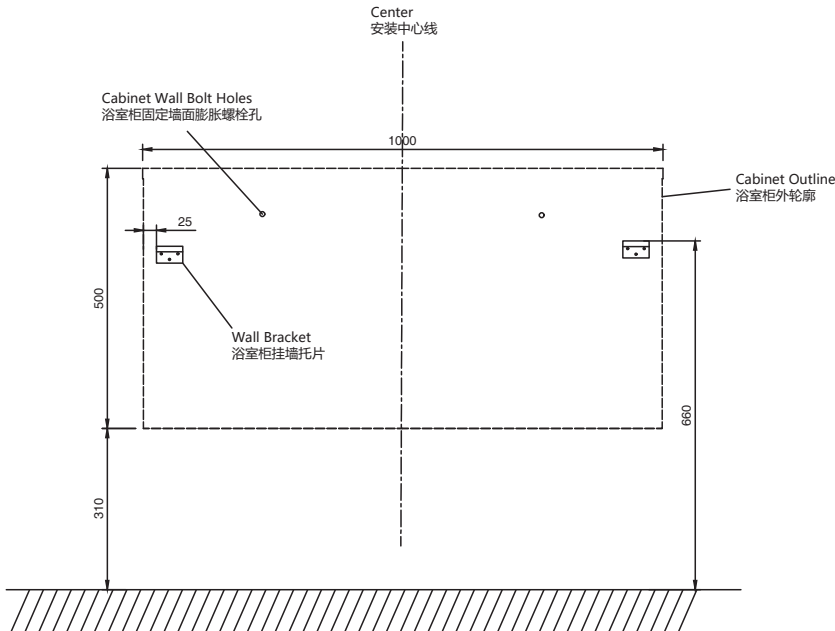

Fig. 3 图 3
- d. After the adjustment is correctly completed, fix the cabinet onto the wall with the attached screws in the hardware package. (The holes and the embedded parts have been prepared in the first step. See Figure 3.)
- d. 确认调整无误后，用五金包中的配套的螺丝将浴柜与墙面再次连接起来。（墙面上的孔和预埋件在第一步中已完成，见图 3）